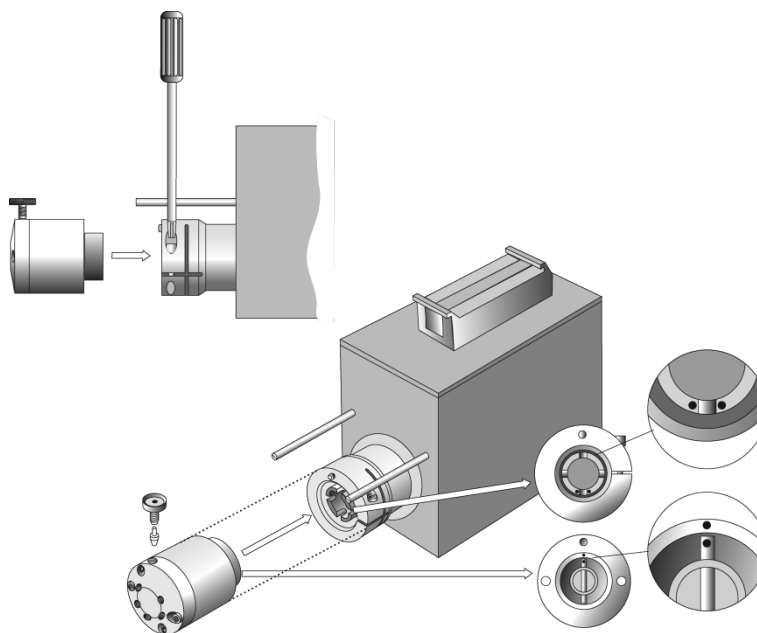

Figure 59. Replacing the Injection Valve VICI/Valco Cheminert Type
To replace and/or clean the injection valve, Cheminert type, follow the steps shown in Figure 59.
3. Check that the valve guide pin remains at its position and observe the guide marks as shown in Figure 59;